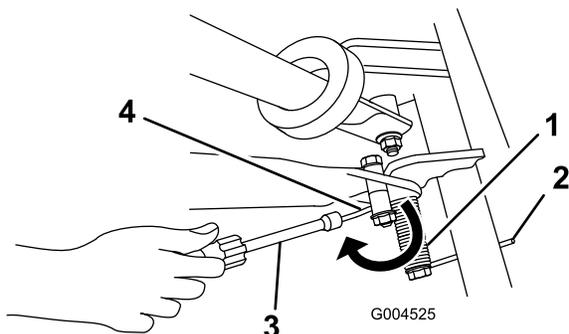

Figure 11
6. Place a nut runner over the end of the spring pointing towards the rear and move the end of the spring over and under the kickstand spacer (Figure 11).